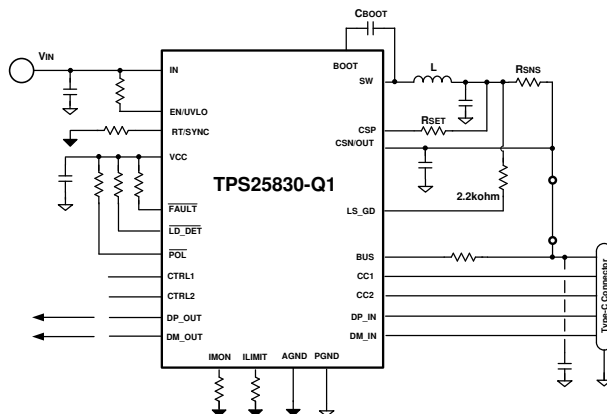
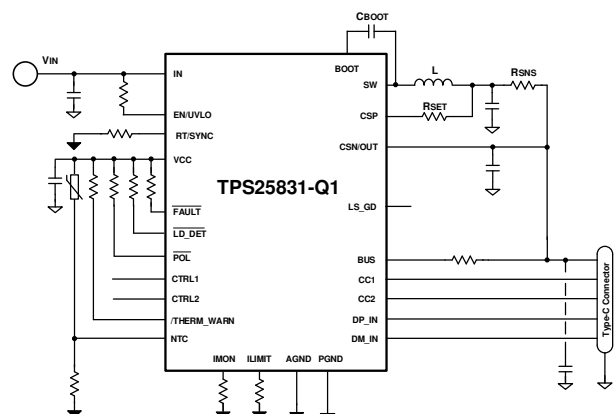

Figure 56. TPS25830-Q1 Buck Average Current Limit
Figure 57. TPS25831-Q1 Buck Average Current Limit
- Buck Average Current Limit Figure 56, Figure 57: